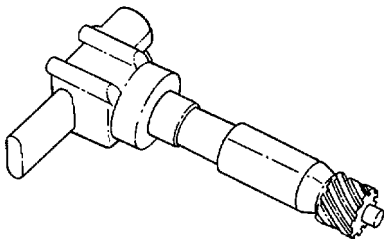

Figure 5-45. Oil Pump Assembly.
- (1) Remove the delivery (10, Appendix F, Figure 59) and suction pipes. The oil pump will now be as shown in Figure 5-45.
- (2) Remove the drive gear using a suitable puller. The end cover assembly also incorporates the pressure relief valve housing.
- (3) With the pump held in a vise with protective clamps, remove the four securing setscrews and remove the end cover assembly.